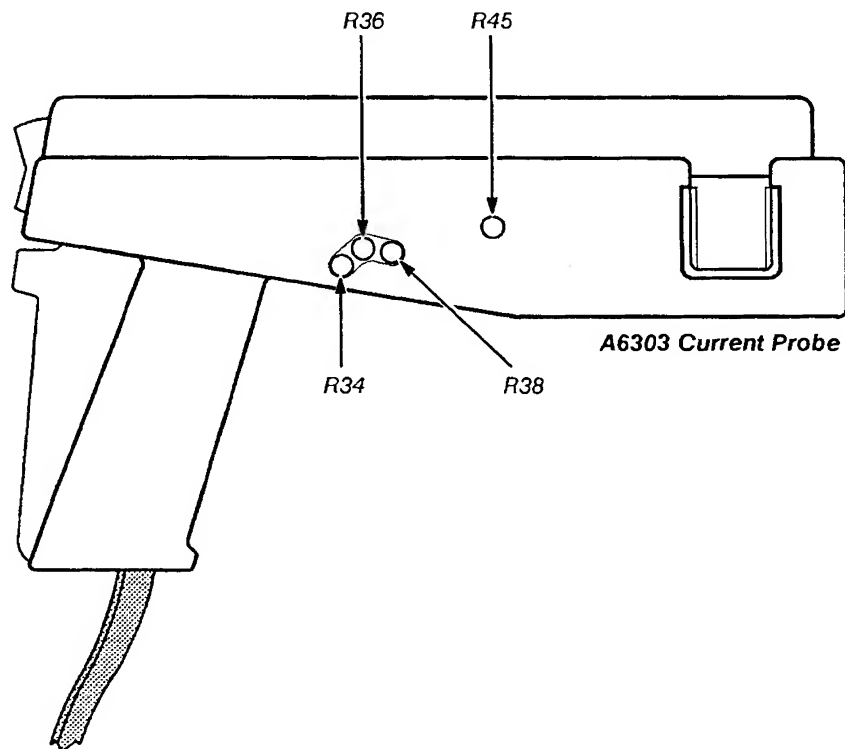

Figure 2-1 — Location of Adjustments on the A6303 Current Probe
- ☐ Step 8: Remove the current probe plug that covers R45. See Figure 2-1.
- If the recorded value (X) is negative, adjust R45 to bring the trace down (Xmilli-units/2) mA.
- If the recorded value (X) is positive, adjust R45 to bring the trace up (Xmilli-units/2) mA.
- ☐ Step 26: Remove the A6303 access plugs for adjustments R34, R36, and R38. Refer to Figure 2-1.